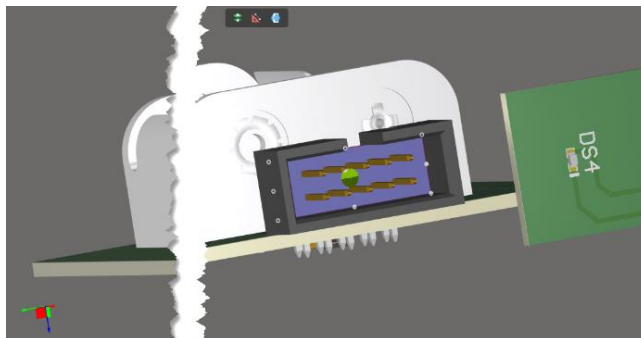

Figure 32. Select back of large board connector as Mate Surface
65. Hover the mouse of the back wall of the larger board connector. With a left mouse click, select the back surface of the larger board connector. You should see the Mate symbol in the center of the area, not at the edge of the area. The split circle icon will turn purple as shown in Figure 32.